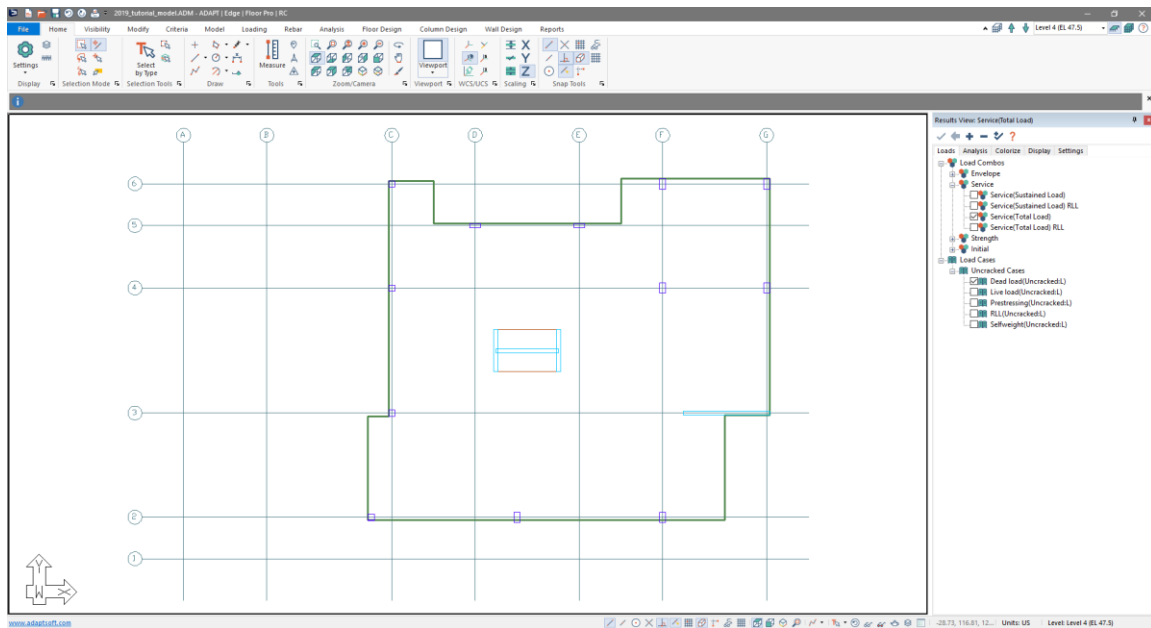

Figure 10-22
- The users should now see the model as shown in **FIGURE 10-22**.